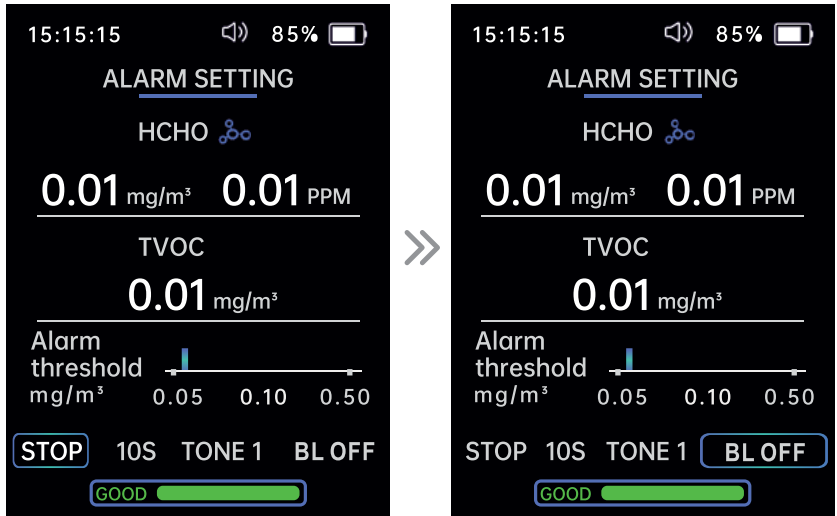

Figure 5
Press the Left (4) and Right (8) buttons to select the required parameters (Fig. 5). Press the **ETR** button (3) to confirm.